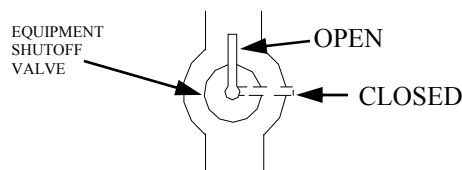

FIGURE 33 - EQUIPMENT SHUT-OFF VALVE
1. Close equipment shutoff valve (see Figure 33).
1. Open equipment shutoff valve (see Figure 33 page 16).